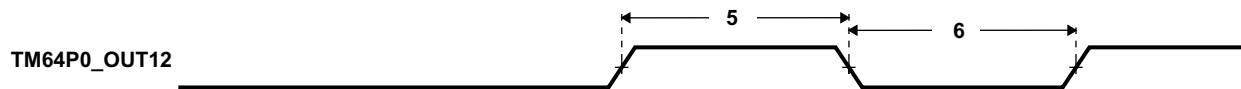

**Figure 6-60. Timer Timing**
**Table 6-86. Timing Requirements for Timer Input(1) (2) (see Figure 6-60)**